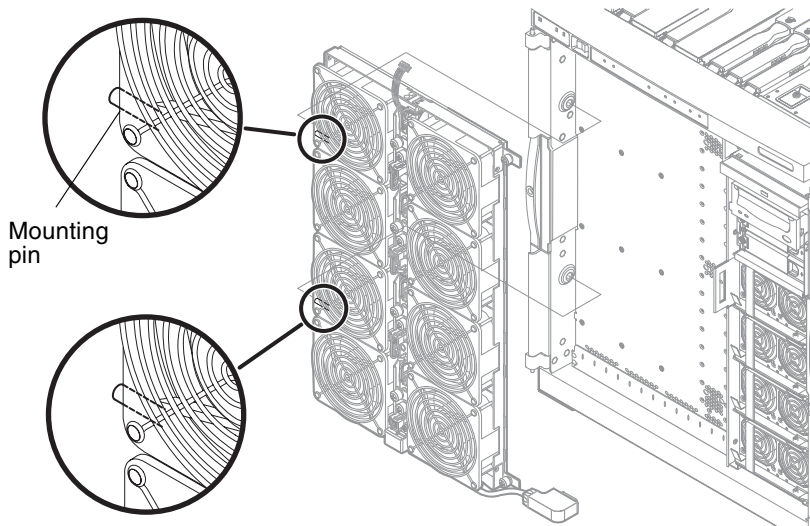

FIGURE 6-7 Removing the Fan Tray
8. Pull the tray slightly to the right to disengage the mounting pins (FIGURE 6-7).